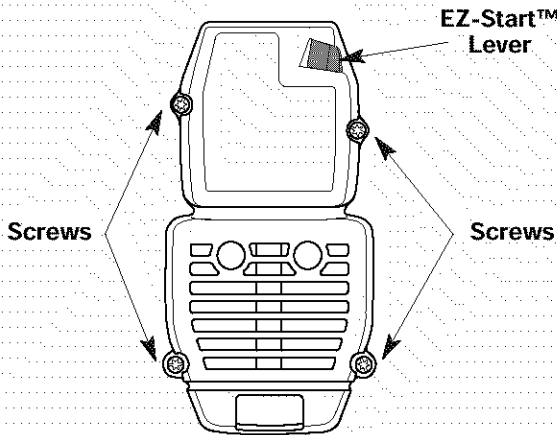

Fig. 23
1. Remove the four (4) screws securing the air filter/muffler cover (Fig. 23). Use a flat blade or T20 Torx bit screwdriver.
2. Insert the four (4) screws into the holes in the air filter/muffler cover (Fig. 23) and tighten.